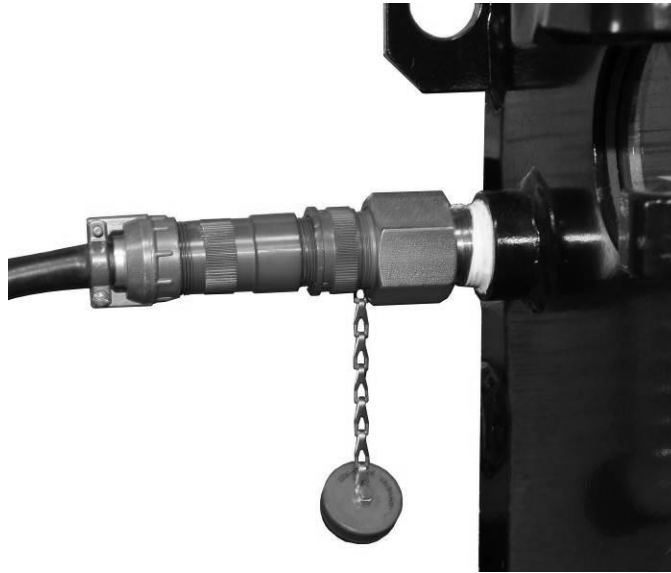

Figure 22
- b) Connect the Racking Pendant into the mating bulkhead connector on the side of the housing (Figure 22).